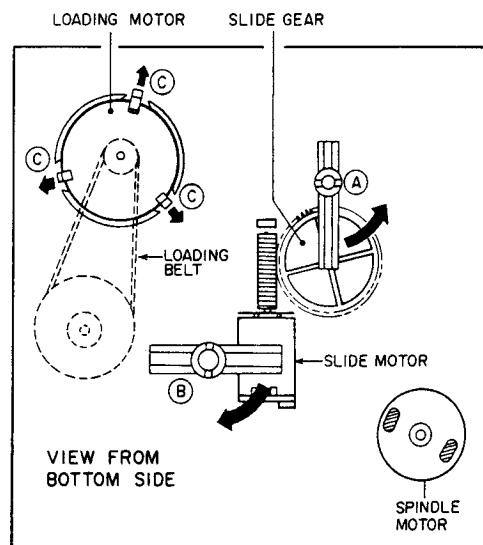

Fig. 3-4
- 1) Turn the **A** GEAR HOLDER LEVER counter-clockwise (Fig. 3-4), then pull out the SLIDE GEAR.
- 1) Remove the LOADING BELT, then remove the LOADING MOTOR while releasing the **C** hooks (Fig. 3-4).
- 1) Turn the **B** SLIDE MOTOR HOLD LEVER (Fig. 3-4) clockwise, then pull out the SLIDE MOTOR.